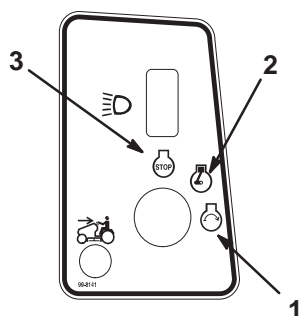

Figure 9
- Turn the ignition key clockwise and hold it in the Start position (Fig. 9). When the engine starts, release the key.
- Turn the ignition key to Off (Fig. 9).